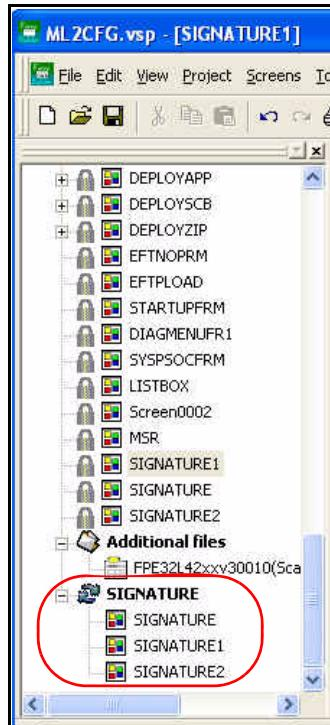

Figure 2-53 Virtual screen file in Project File Tree window
9. Click **Finish**. The SIGNATURE virtual screen with its selected screens (SIGNATURE, SIGNATURE1, and SIGNATURE2) is added to the bottom of the Project File Tree window as shown below in the Figure 2-53 example.